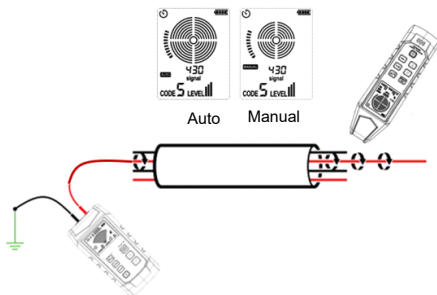

Figure 11.8.1a Identify the specific cable in cable harness
5. See Figure 11.8.1a for specific application.